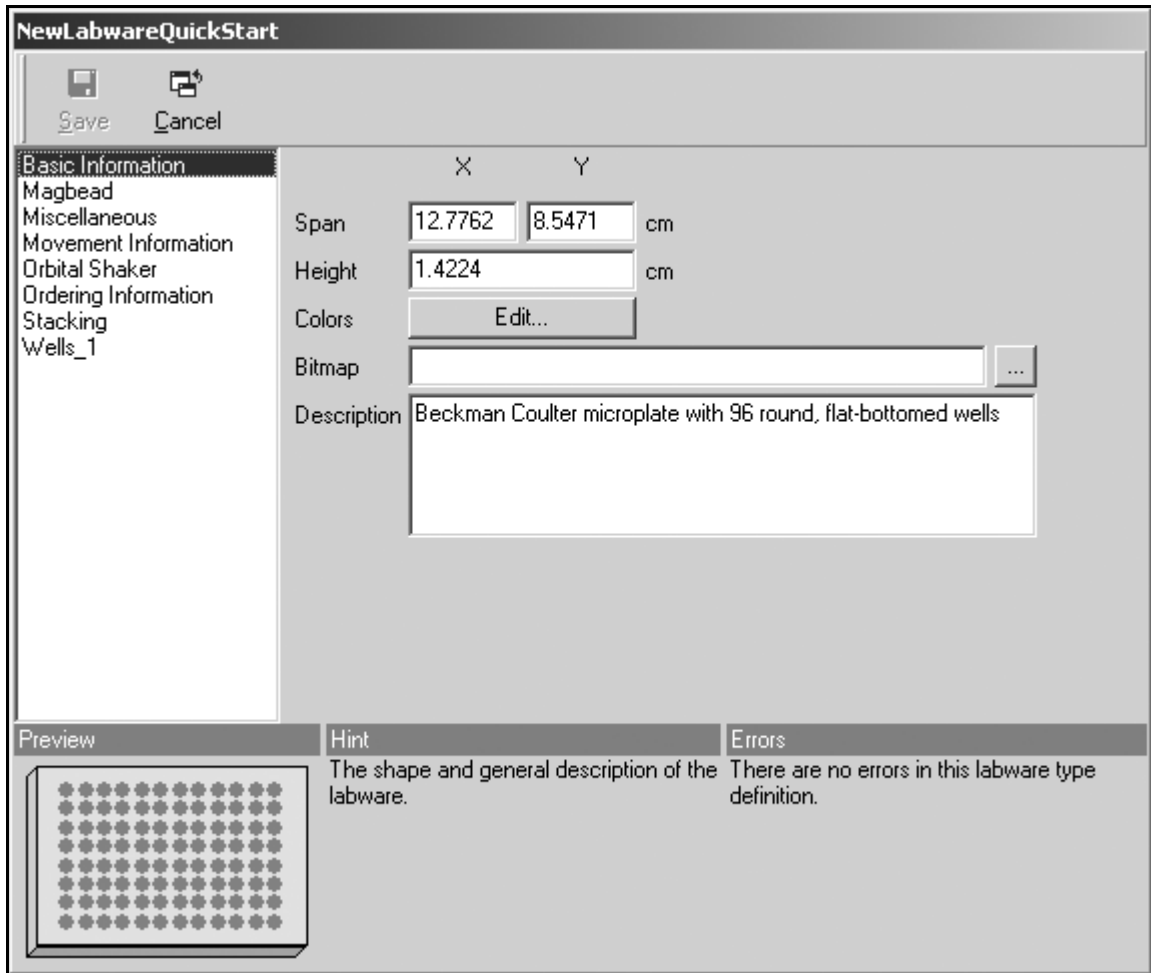

Figure 3-5. NewLabwareQuickStart
4. Double-click the NewLabwareQuickStart graphic. NewLabwareQuickStart appears (Figure 3-5).
**Note:** Each piece of labware in Labware Types has its own mini-editor similar to Figure 3-5 to allow specifications to be revised and saved.